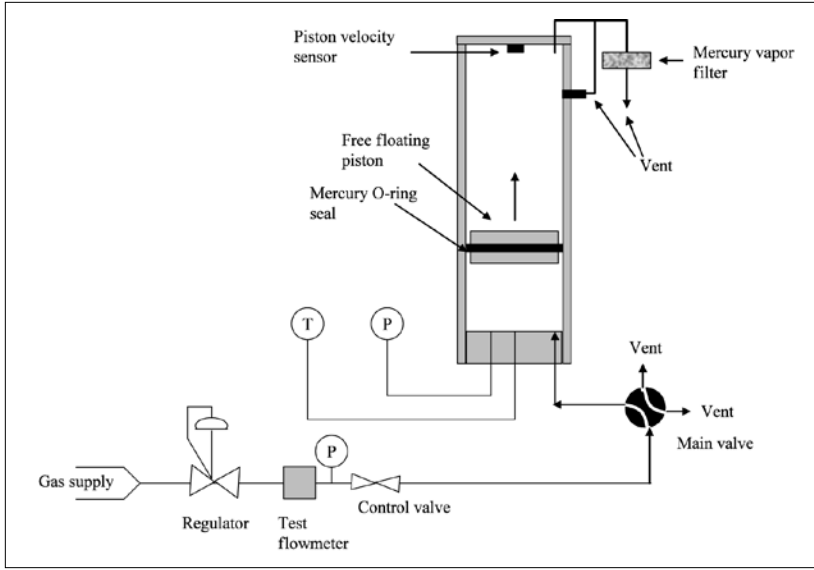

Figure 2. A typical mercury sealed piston system design.
- A lightweight plastic piston or a layer of soap bubble floats inside a precision bore tube with the pressure of gas flow at constant velocity (Figure 2)